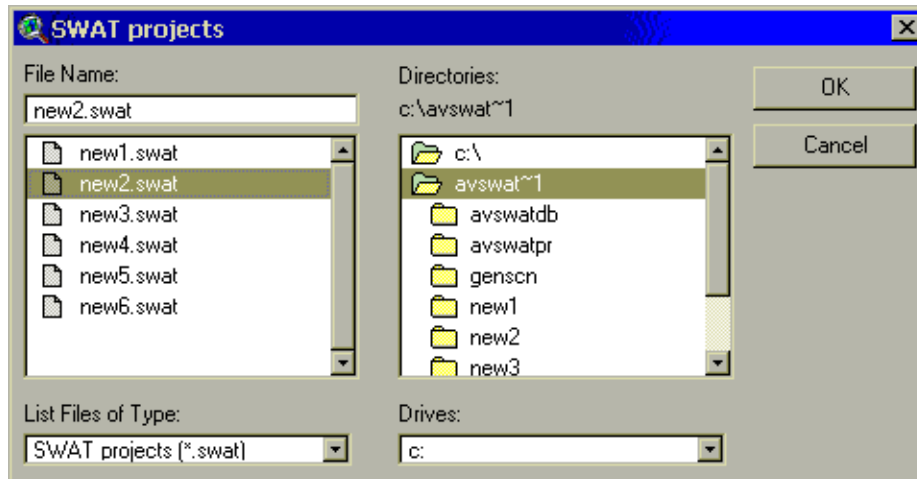

Figure 4.4
2. A browser will be displayed (Figure 4.4). If necessary, move to the proper directory. Click on the name of the SWAT project log file (**.swat**) belonging to the project you wish to open.